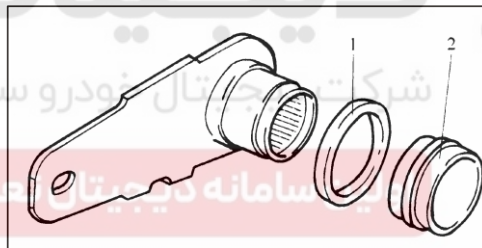
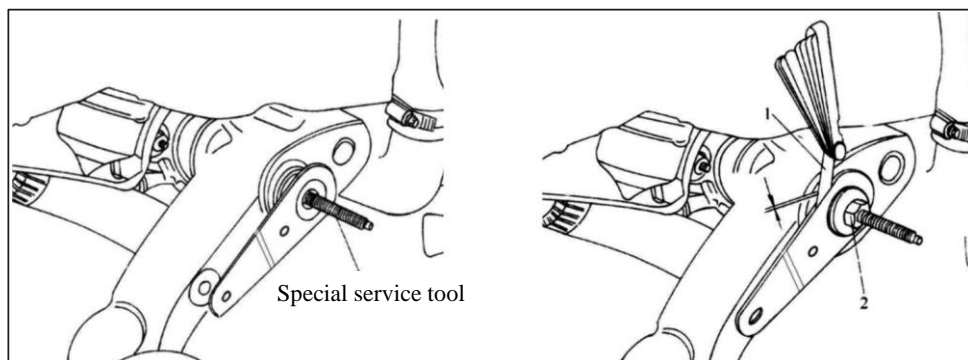

Figure 4-36 Install Oil Seal
Figure 4-37 Install Rocker Arm
(10) On the right side of rocker arm: Carefully clean up the rocker arm and inside of oil seal, coat MOBIL TEMP G9 grease onto the outside surface of oil seal, install the new oil seals 1 and 2 as shown in Figure 4-36, and then properly install the rocker arm with the special service tool (as shown in Figure 4-37). Once the clearance between rocker arms reaches 1mm, the assembly is completed. Tighten up the bolt 1.